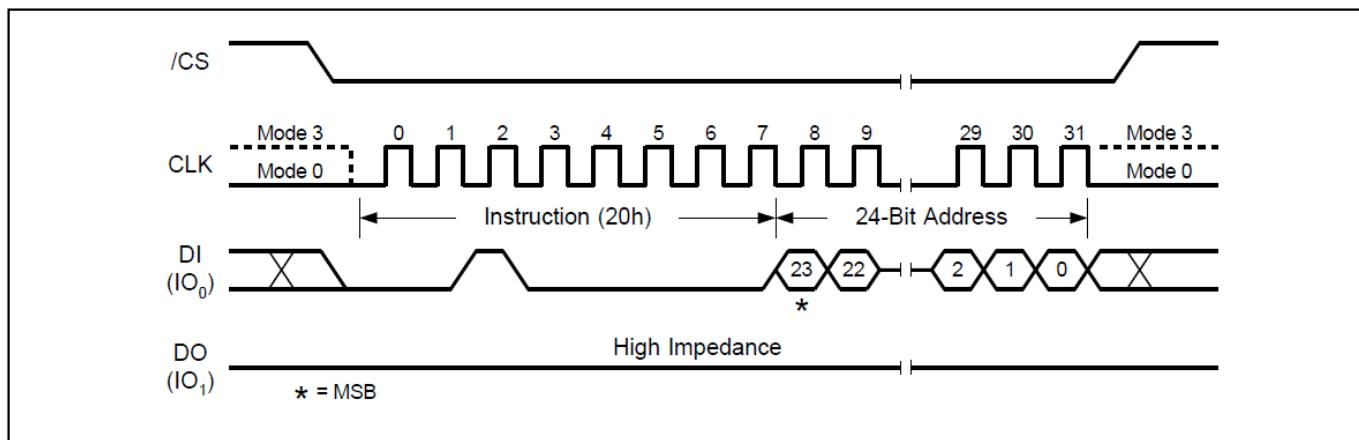

Figure16. Sector Erase Sequence Diagram
The Sector Erase command sequence: CS# goes low → sending Sector Erase command → 3-byte address on DI → CS# goes high. The command sequence is shown in Figure16. CS# must be driven high after the eighth bit of the last address byte has been latched in; otherwise the Sector Erase (SE) command is not executed. As soon as CS# is driven high, the self-timed Sector Erase cycle (whose duration is tSE) is initiated. While the Sector Erase cycle is in progress, the Status Register may be read to check the value of the Write in Progress (BUSY) bit. The Write in Progress (BUSY) bit is 1 during the self-timed Sector Erase cycle, and is 0 when it is completed. At some unspecified time before the cycle is completed, the Write Enable Latch (WEL) bit is reset. A Sector Erase (SE) command applied to a sector which is protected by the Block Protect (CMP, SEC, TB, BP2, BP1, and BP0) bit (see Table 1-2) is not executed.